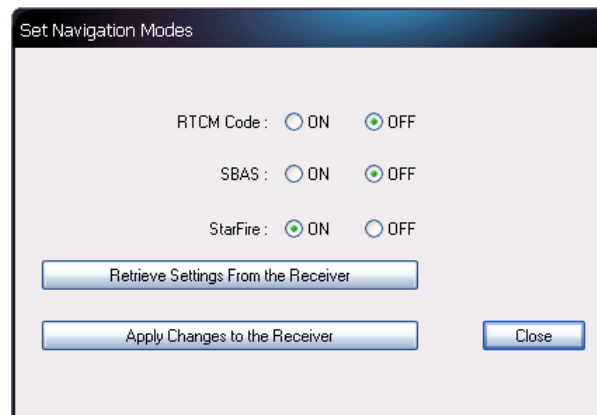

Figure 33: Set Navigation Modes/StarFire ON
- Click *Navigation Modes* on the *Receiver Setup* menu to open the *Set Navigation Modes* dialog box (see Figure 33).
Refer to Figure 33 for the steps below: